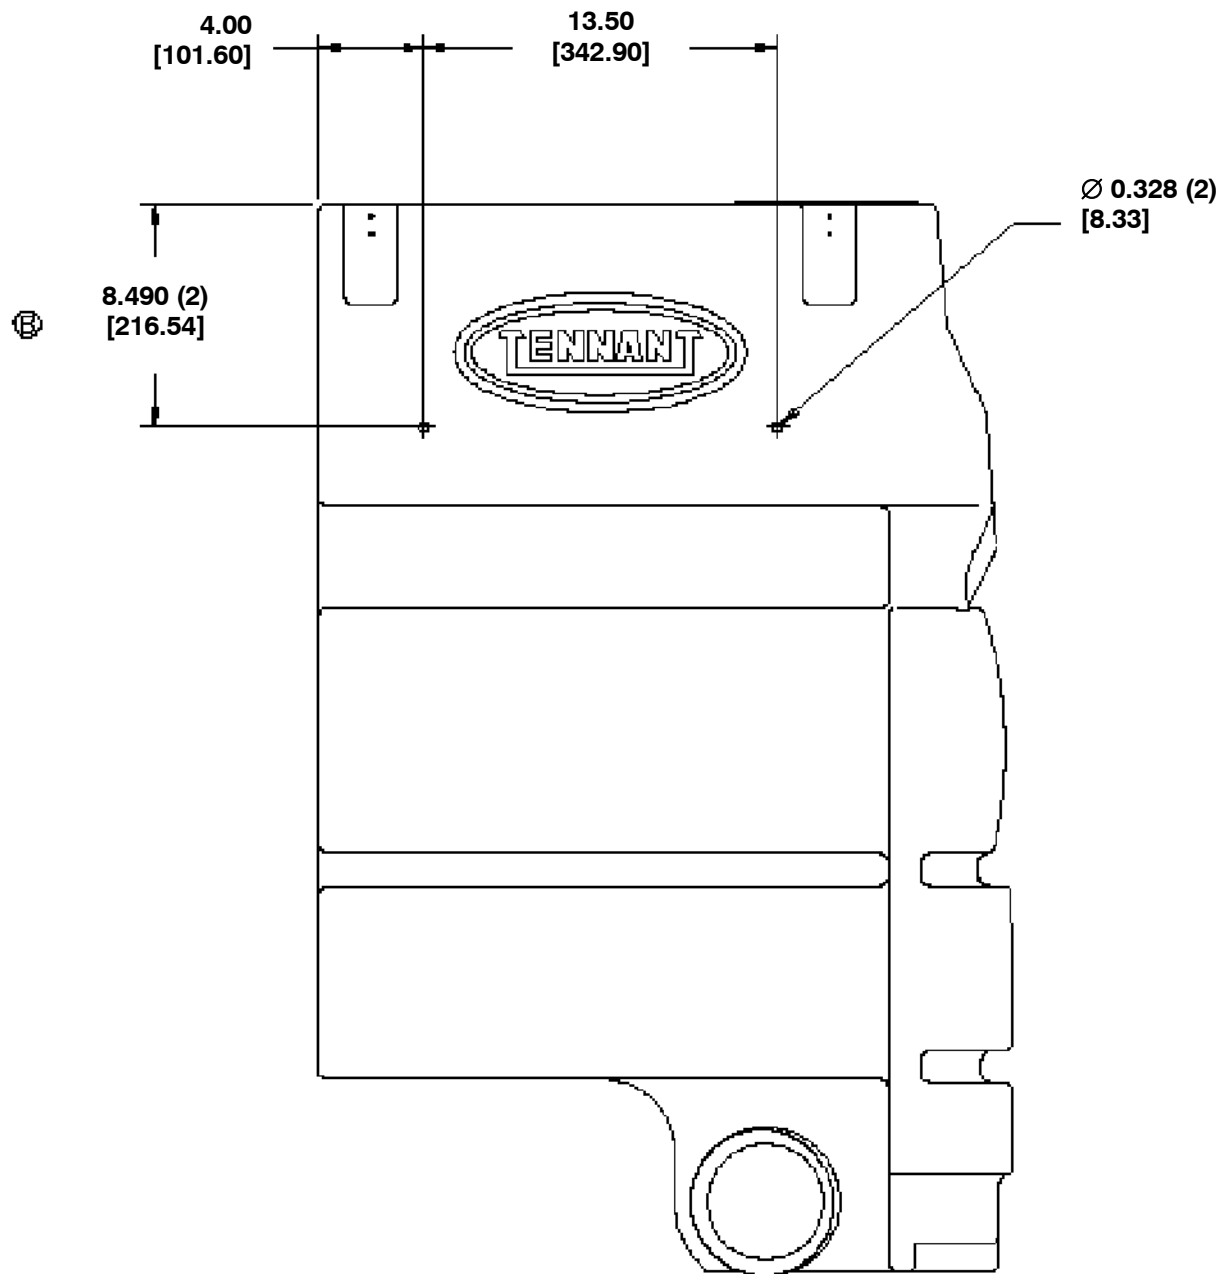

FIG. 3 - POWER WAND BAG MOUNTING HOLE LOCATION
15. Mount power wand bag (1) to the rear of the machine using bag mounting strip (2), hex screws (3), washers (5) and lock nuts (4). Keep power wand assembly and hose in bag when not in use. (Refer to FIG. 3 and 4)